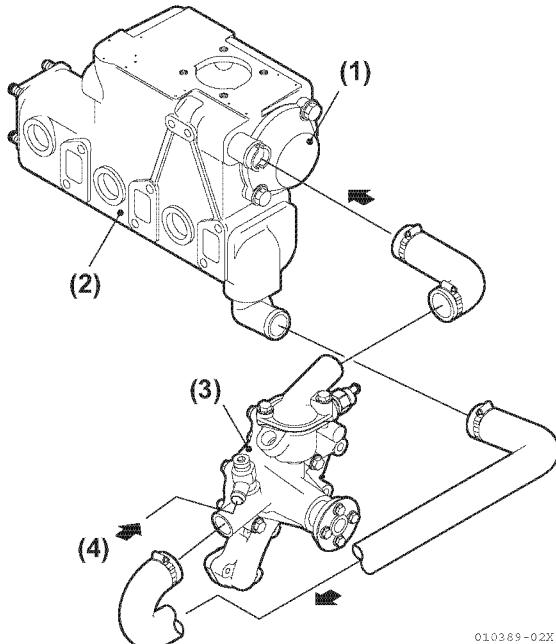

Figure 5-22
20. Remove the coolant pipe (seawater / freshwater) (Figure 5-22) thru (Figure 5-25):